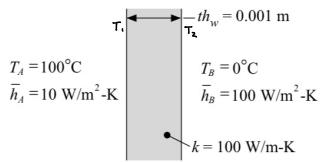

Figure P1.2-3: Plane wall separating two fluids
**1.2-3 (1-2 in text)** Figure P1.2-3 illustrates a plane wall made of a thin ( $th_w = 0.001 \text{ m}$ ) and conductive ( $k = 100 \text{ W/m}\cdot\text{K}$ ) material that separates two fluids, A and B. Fluid A is at  $T_A = 100^\circ\text{C}$  and the heat transfer coefficient between the fluid and the wall is  $\bar{h}_A = 10 \text{ W/m}^2\cdot\text{K}$  while fluid B is at  $T_B = 0^\circ\text{C}$  with  $\bar{h}_B = 100 \text{ W/m}^2\cdot\text{K}$ .